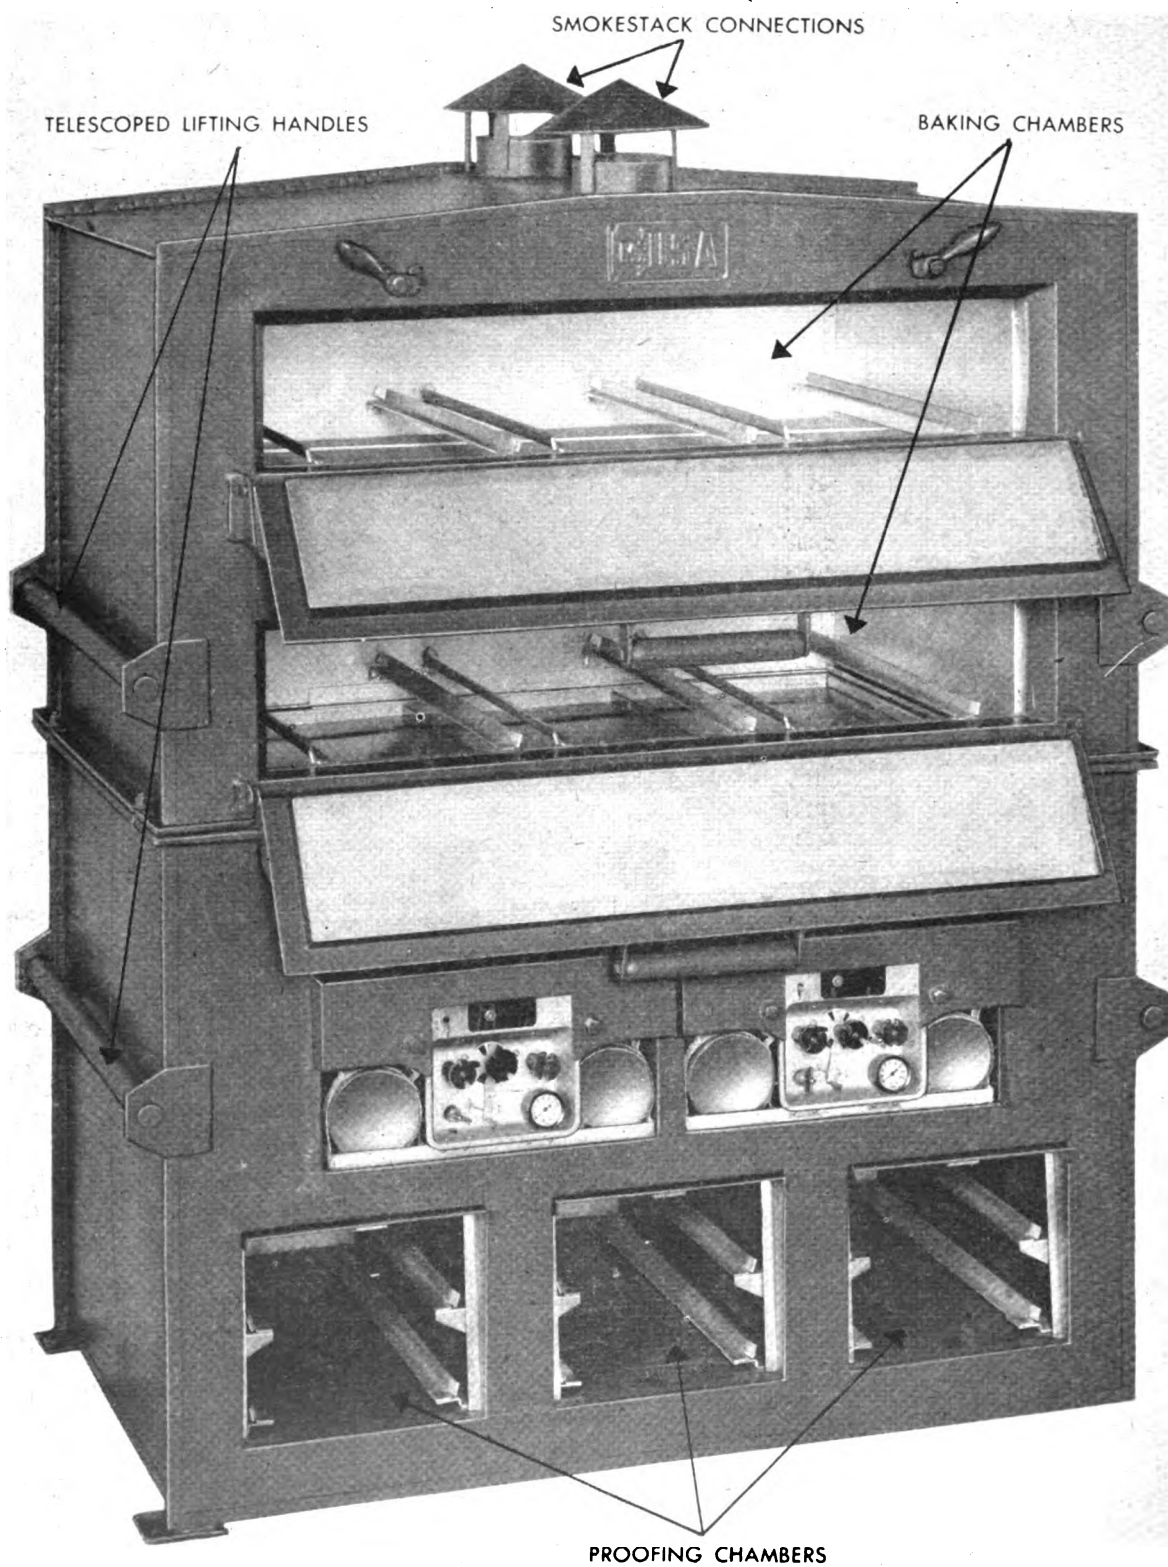

Figure 64. Oven, bake, field, M1942 (65-A-5500), equipped with units, fire, M1937 (65-J-2605).
a. The field bake oven M1942 (stock No. 65-A-5500), (fig. 64), is a large two-deck oven which will produce 48 pounds of round field bread or 60 pounds of garrison field bread in a baking period of 1 to 1½ hours. Baking time depends on the type of bread being baked, the type of burner used, and local climatic conditions. One section of a bakery company operating two ovens will produce bread for approximately 2,500 men each day. (For a list of component parts and accessories of the outfit, baking, field, M1942, see sec. IX, app. For a list of parts for mechanical maintenance, see sec. X, app.)
##### 54. Firing with Unit, Fire, M1937 (see fig. 64)
(3) Place the cap over the rear stack connection and seal it firmly with furnace cement. (See figs. 64 and 70.) Any leak at this connection will interfere with combustion. (A few early model M1942 ovens are in use, which do not have the rear stack connection.)
(4) Join the three lengths of stack together and attach the assembly at the front connection. (See figs. 64 and 70.)
(5) Swing the float valve into operating position. The float valve on each burner is mounted on a pivot. During transportation of the oven the valve is swung into the housing and locked; for operation, the valve is swung out. To change the position of the valve, loosen the large nut on the